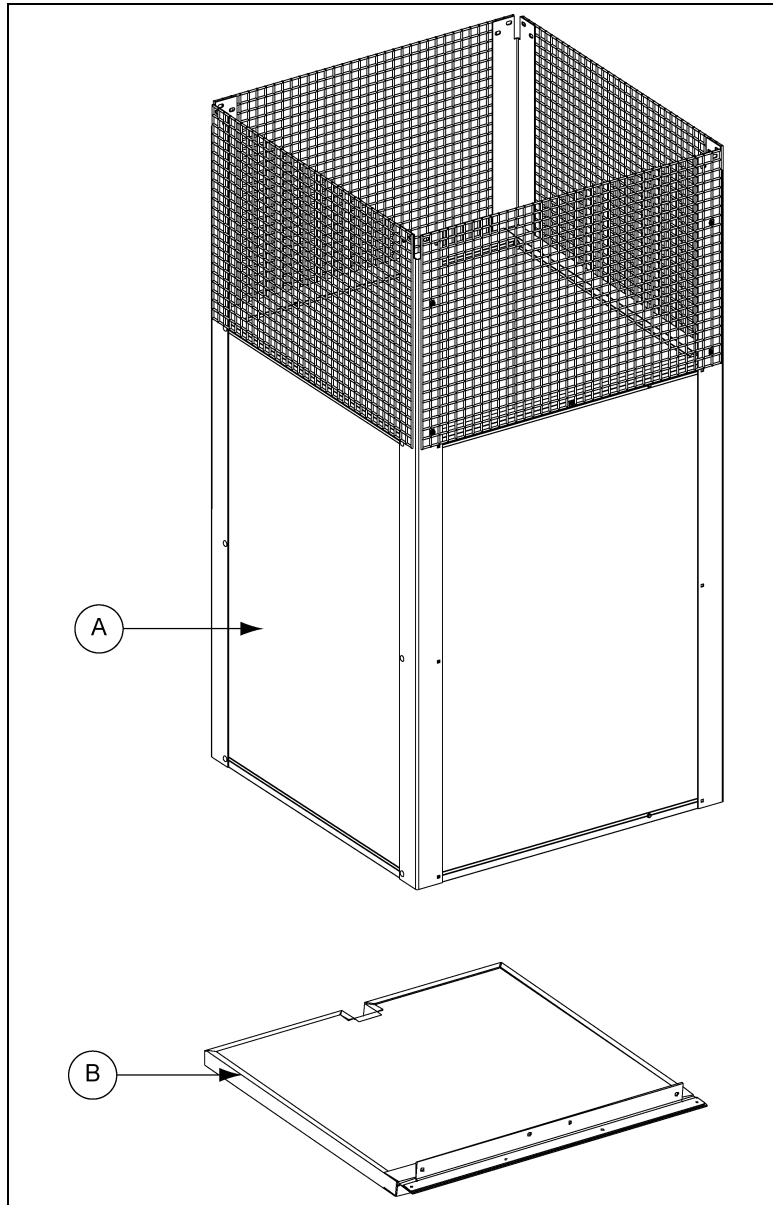

Figure 2E
1. Bolt the closure door (B) to the bottom of the chamber (A) or extension on the opposite side as the pulley bracket assembly using two (2) 1/4" x 2-1/2" carriage bolts and 1/4" lock nuts.
3. The long cords can be tied off to hold the door in either the closed or open position. (See Figure 2E.)